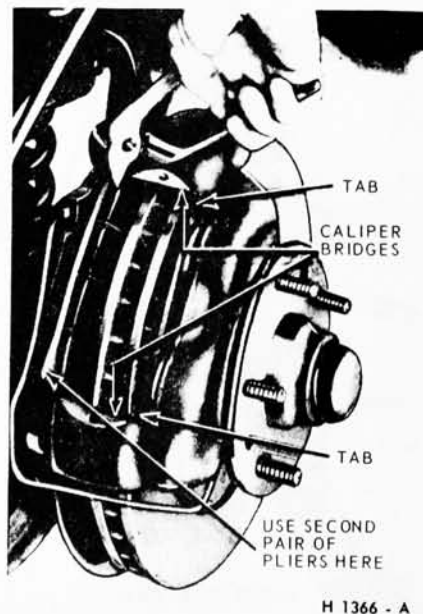

FIG. 11—Removing Disc Brake Shoe and Lining Assembly
in the caliper abutments by means of the tabs which ride on machined ledges (bridges) when hydraulic pressure is applied to the piston (Fig. 11). A shoe and lining assembly consists of friction material bonded to a metal plate called the shoe. It is replaced as a unit. Brake torque is absorbed by the mating of the shoe end against the caliper abutments (Fig. 25). A splash shield is attached to the top of the caliper to retain the shoe and lining assemblies and reduce contamination. The caliper assembly is mounted on the front wheel spindle to the rear of the wheel vertical centerline.
4. Grasp the metal flange on the outer end of the shoe with two pairs of pliers and pull the shoe out of the caliper (Fig. 11).
1. Position a new shoe and lining assembly on each side of the rotor so that the lining faces the rotor. Be sure that the tabs on the shoe flanges seat fully against the caliper bridges (Fig. 11).